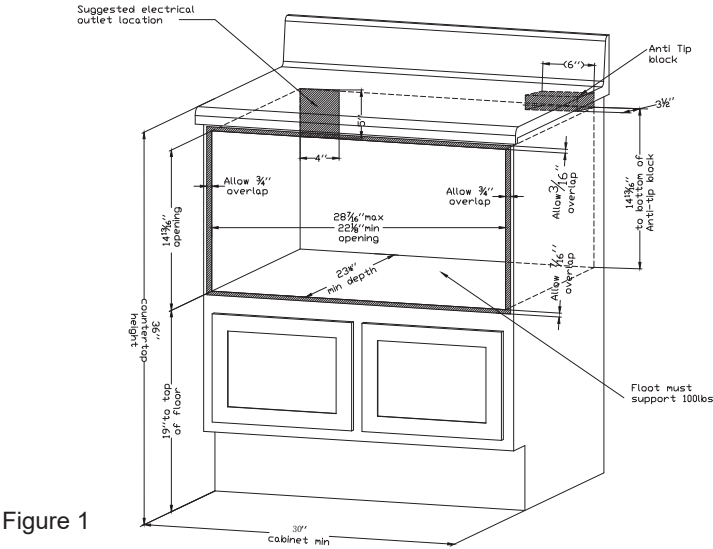

Figure 1
- Dimensions that are shown in Figure 1 must be used. Given dimensions provide minimum clearance. Locate electrical outlet in the shaded area in the upper left-hand corner of the cutout.
Figures 1 and 2 contain many Microwave Drawer measurements for reference when planning the drawer's location. This Microwave Drawer can be installed below any electric or gas wall oven. *Can also be installed using an electrical outlet in an adjacent cabinet within the area where tire provided electrical cord can reach. Power cord access hole in cabinet should be a minimum 1 ¹/₂" diameter hole and debarred of all sharp edges.
To reduce the risk of tipping of the drawer, the Anti-Tip block must be properly installed located 14 inches above the floor on which the Microwave Drawer will sit. The 6-inch Anti-Tip block must be provided by the installer. See Figures 1 and 3. The Anti-Tip block prevents serious injury that might result from spilled hot liquids. If the Microwave Drawer is ever moved to a different location, the Anti-Tip block must also be moved and installed. When installed to the wall make sure that the screws completely penetrate the dry wall and are secured in wood or metal so that the block is totally stable. When fastening, be sure that the screws do not penetrate electrical wiring or plumbing. The electrical requirements are a 120 volt 60 Hz, AC only, 15 amp. or more protected electrical supply. It is recommended that a separate circuit serving only this appliance be provided. The drawer is equipped with a 3-prong grounding plug. It must be plugged into a wall receptacle that is properly installed and grounded. Should you only have 2-prong outlet, have a qualified electrician install a correct wall receptacle.